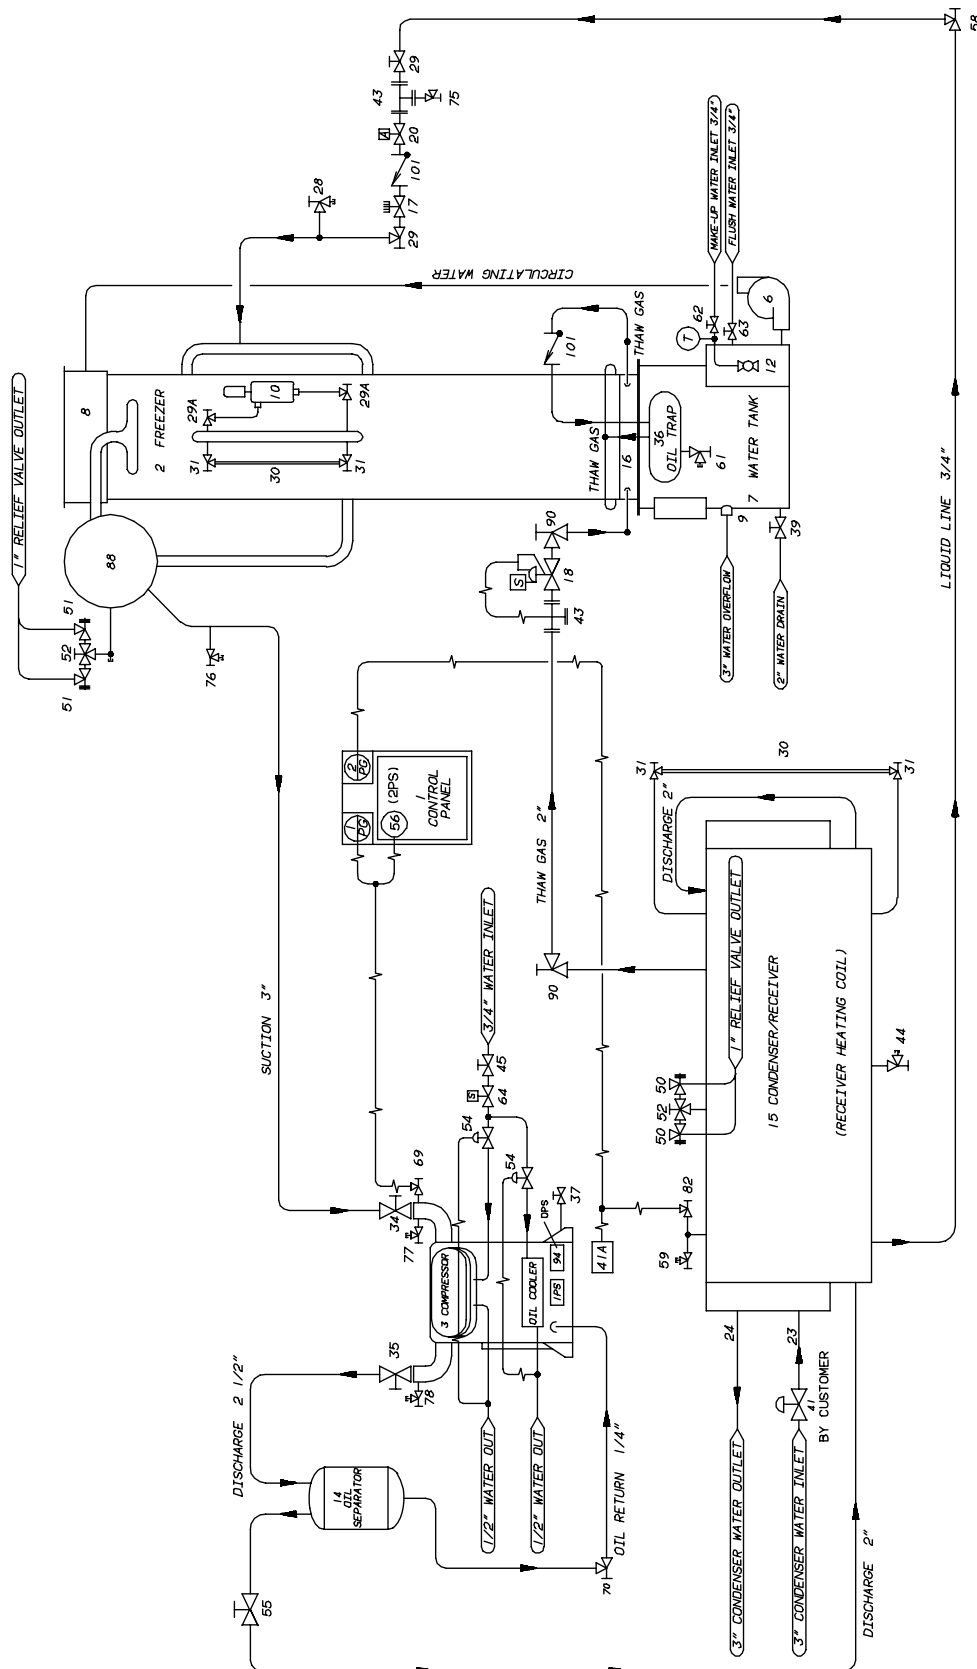

FIGURE 4-1
Operating Features. Your packaged Tube-Ice[®] machine is an efficient ice producing plant. If installed and maintained properly, it will give many years of operation with a minimum amount of repairs. Refer to piping schematics, FIGURE 4-1 and 4-2 to identify component parts while following the information and instructions in this manual.
Refrigeration System Review. The refrigeration system uses anhydrous ammonia (R-717) refrigerant. Following the piping schematic (Figure 4-1 or 4-2), you will see that during the machine's freeze cycle, the compressor discharge gas goes through the oil separator (14) to remove any oil present in the discharge gas and return the oil to the compressor crankcase. From the oil separator, the discharge gas continues through a heat coil in the lower part of the condenser/receiver (15).¹ It is then discharged into the condenser and condensed into a liquid by the removal of heat by water passing through the condenser tubes. A reservoir of liquid R-717 (approximate 375 lbs for P24A and 625 lbs. for P34A) is accumulated in the receiver and is required for thawing purposes. Liquid from the receiver flows through the strainer to the "A" solenoid valve (20) which opens and closes by action of the low side float switch (10). The liquid is then expanded through the hand expansion valve (17) and into the evaporator (2) (freezer). The cold wet R-717 refrigerant floods the evaporator and is in contact with the outside of the ice making tubes which water is being circulated through. The heat contained in the water passes through the wall of the tubes, lowering the temperature of the water causing it to freeze and form a long tube of ice that adheres to the inside of freezer tubes. Since the purest water freezes first, the circulating water continues to wash the dissolved solids down into the sump area of the water tank. The flushing valve helps to rid the water tank of increased dissolved solids by flushing them out the overflow during the harvest (thawing) period.